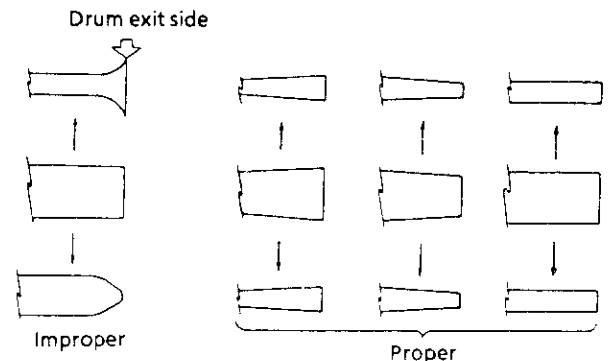

Figure 2-14
- 4) Adjustment of exit side guide roller P3. Adjust the height of P3 in the same manner as entry side so that RF waveform change becomes as similar as possible. (See Fig. 2-14)